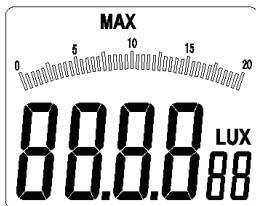

Figure 5-1-3
- Press and hold “MAX/MIN” key for a short time, “MAX” will appear on top LCD interface (as shown in figure 5-1-3).